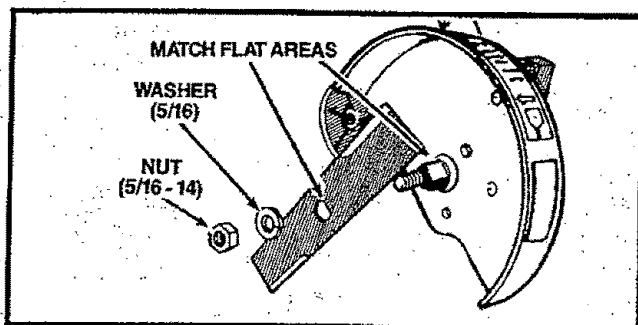

Figure 3
- a. Place the blade on the blade shaft matching the flat area of the blade opening with the flat side of the shaft. Figure 3.